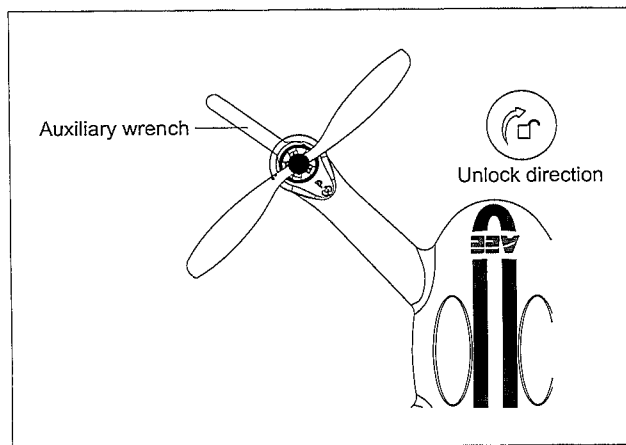

Figure 11
**⚠** As shown as in the Figure 11, prevent motor rotation by using the auxiliary wrench or your hand, then remove propeller by turning towards the unlock direction.